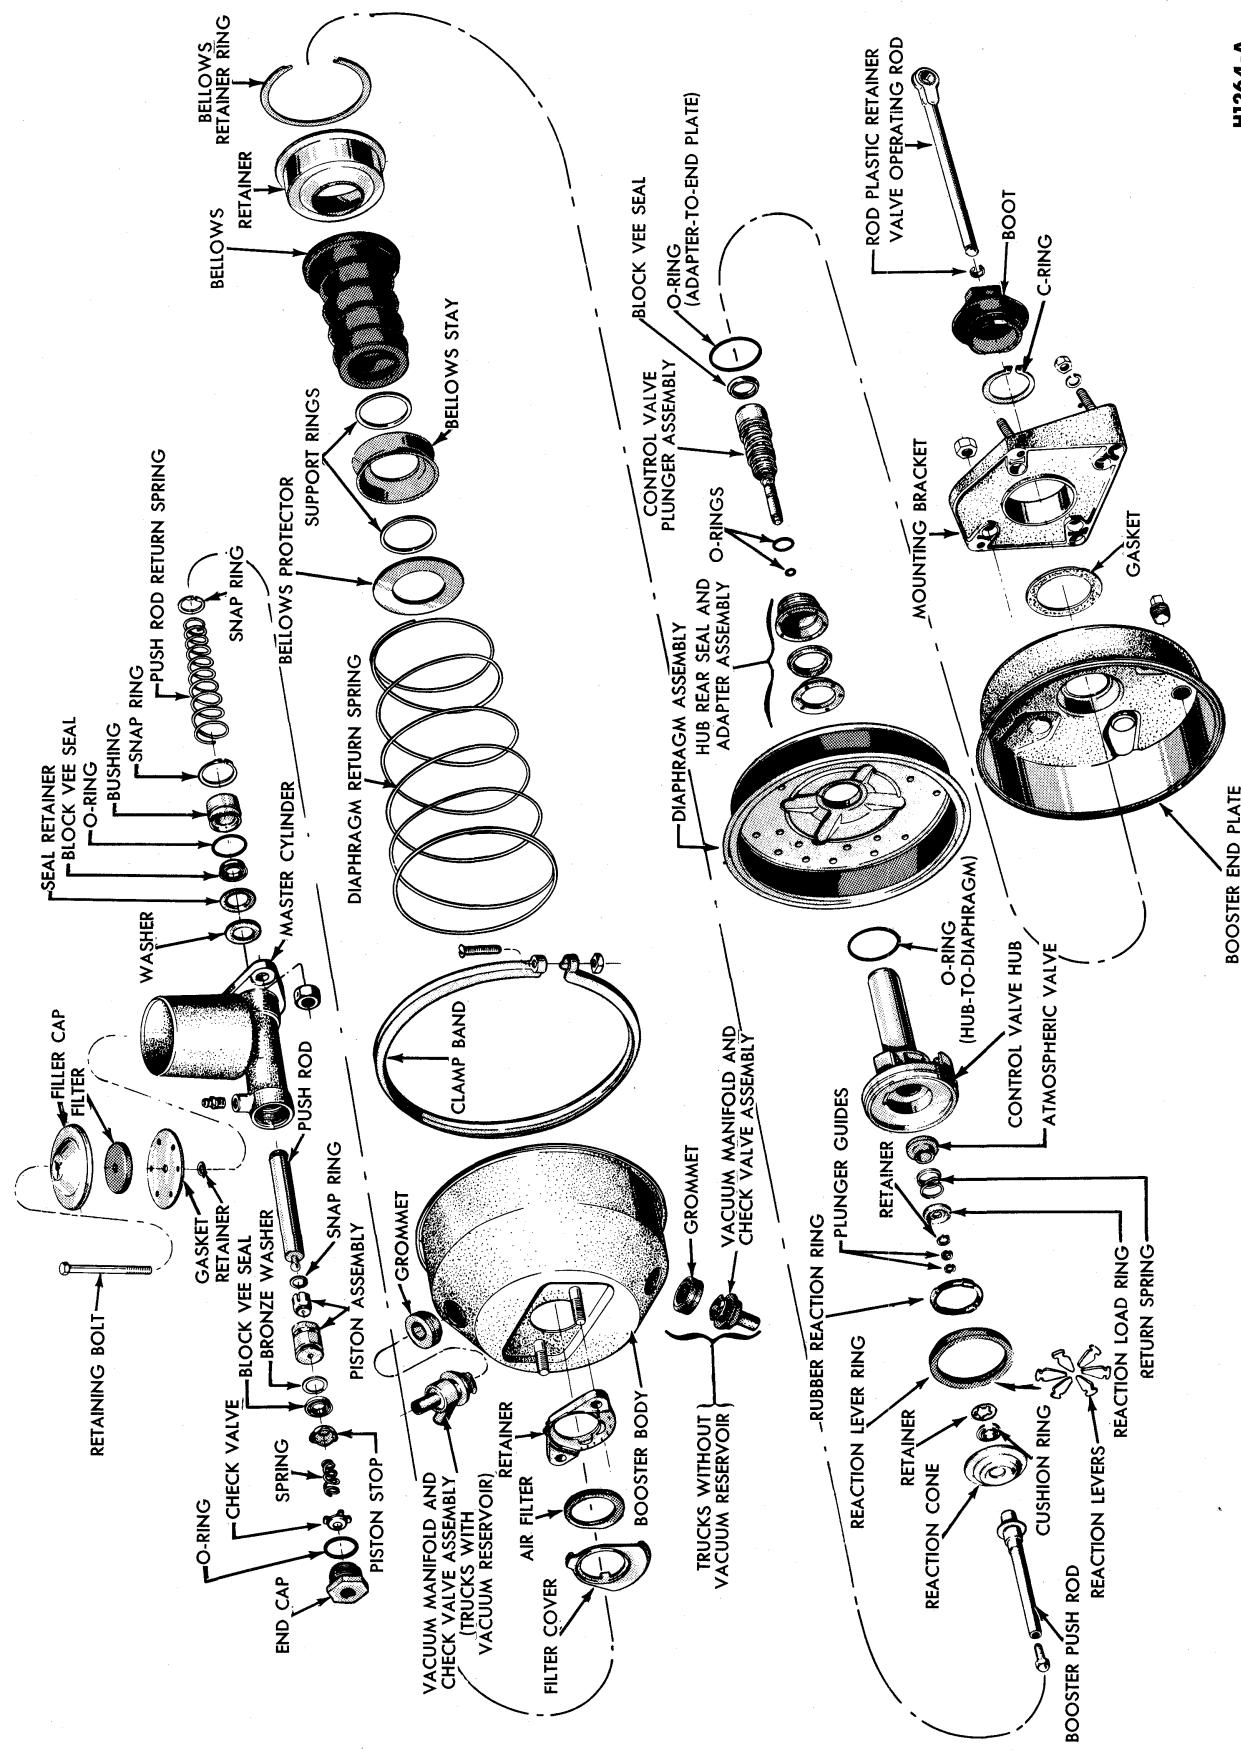
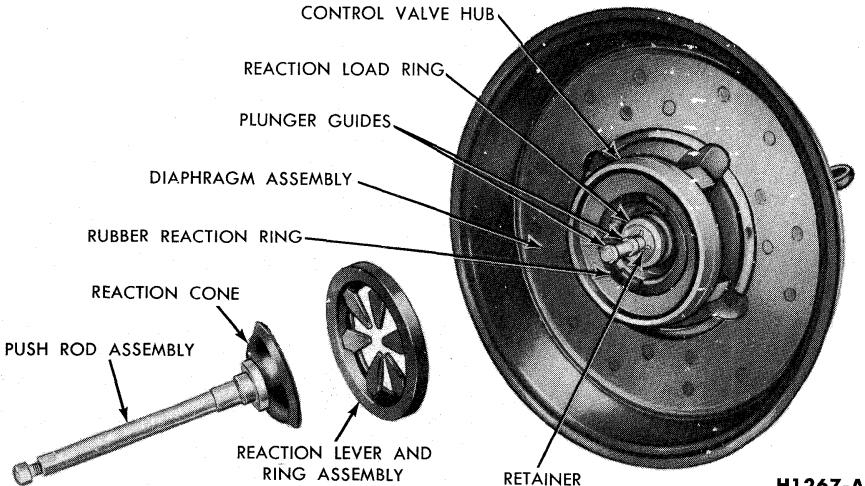

FIG. 23—Dash-Mounted Booster Disassembled
FIG. 26—Disassembly or Assembly—Reaction Components and Push Rod-to-Valve Hub
1. Remove the air filter cover, air filter, and retainer assembly from the booster body (Fig. 23).
5. Remove the large C-ring that retains the rear seal adapter assembly to the booster end plate (Fig. 23).
8. Separate the bellows, control valve, and diaphragm assembly from the end plate. Remove the O-ring that fits between the hub rear seal adapter assembly and the end plate (Fig. 23).
10. Remove the retainer, support rings, bellows stay, and protector from the bellows (Fig. 23).
11. Remove the booster push rod assembly, the reaction lever and ring assembly, and the rubber reaction ring from the control valve hub (Fig. 26). Remove the two plastic plunger guides from the control valve plunger.
assemble the levers from the reaction ring (Figs. 26 and 23).
1. If the valve operating rod was removed from the plunger, assemble a new plastic retainer to the end of the rod (Fig. 23). Insert the rod into the plunger so that the retainer engages the groove in the plunger.
guides in their grooves on the valve plunger assembly (Fig. 26).
9. Install the rubber reaction ring in the valve hub so that the ring locating knob indexes in the notch in the hub, with the ring tips toward the front (Fig. 26).
10. Assemble the reaction lever and ring assembly, then install the assembly in the valve hub (Fig. 26).
11. Assemble the reaction cone and cushion ring to the push rod, and secure to the rod with the retainer (Fig. 23). Install the push rod assembly to the valve hub so that the valve plunger indexes in the push rod (Fig. 26).
14. Install the O-ring in the groove at the front side of the end plate. Assemble the bellows, control valve, and diaphragm assembly to the end plate by inserting the valve hub through the front side of the end plate with the small-diameter side of the seal adapter protruding from the rear side of the end plate (Fig. 23).
18. Place the gasket on the end plate, slide the mounting bracket over the end plate studs, and install the retaining nuts (Fig. 23).